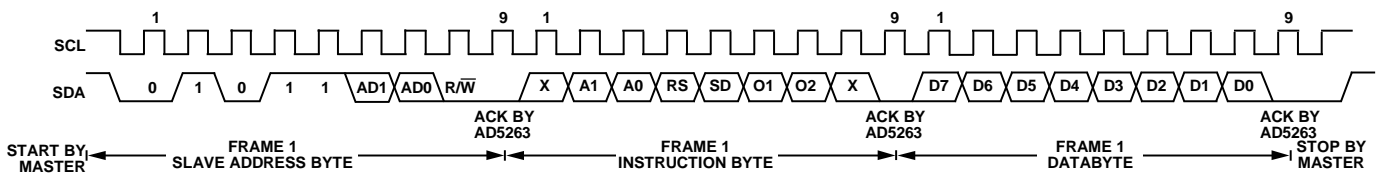
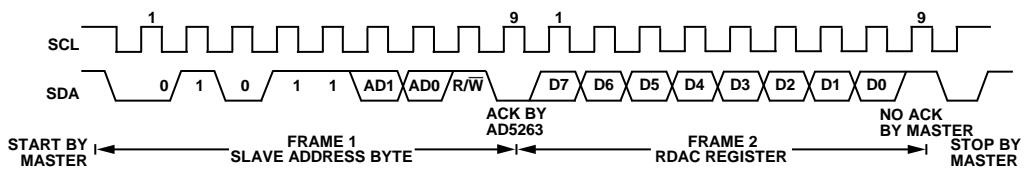

Figure 43. Writing to the RDAC Register
Figure 44. Reading Data from a Previously Selected RDAC Register in Write Mode
1. The master initiates a data transfer by establishing a START condition, which is when a high-to-low transition on the SDA line occurs while SCL is high (see Figure 43). The following byte is the slave address byte, which consists of the 7-bit slave address followed by an R/W bit. This R/W bit determines whether data will be read from or written to the slave device.
After acknowledging the instruction byte, the last byte in write mode is the data byte. Data is transmitted over the serial bus in sequences of nine clock pulses (eight data bits followed by an acknowledge bit). The transitions on the SDA line must occur during the low period of SCL and remain stable during the high period of SCL (see Figure 43).
- In read mode, the data byte follows immediately after the acknowledgment of the slave address byte. Data is transmitted over the serial bus in sequences of nine clock pulses (a slight difference with the write mode, where there are eight data bits followed by an acknowledge bit). Similarly, the transitions on the SDA line must occur during the low period of SCL and remain stable during the high period of SCL (see Figure 44).
Note that the channel of interest is the one that was previously selected in write mode. In cases where users need to read the RDAC values of both channels, they must program the first channel in write mode and then change to read mode to read the first channel value. After that, they must change back to write mode with the second channel selected and read the second channel value in read mode again. It is not necessary for users to issue the Frame 3 data byte in the write mode for subsequent readback operation. Refer to Figure 44 for the programming format.
- After all data bits have been read or written, a stop condition is established by the master. A stop condition is defined as a low-to-high transition on the SDA line while SCL is high. In write mode, the master pulls the SDA line high during the tenth clock pulse to establish a stop condition (see Figure 43). In read mode, the master issues a no acknowledge for the ninth clock pulse (that is, the SDA line remains high). The master then brings the SDA line low before the tenth clock pulse, which goes high to establish a stop condition (see Figure 44).
The AD5263 features additional programmable logic outputs, O1 and O2, which can be used to drive a digital load, analog switches, and logic gates. O1 and O2 default to Logic 0. The voltage level can swing from GND to  $V_L$ . The logic states of O1 and O2 can be programmed in Frame 2 under write mode (see Figure 43). These logic outputs have adequate current driving capability to sink/source milliamperes of load.